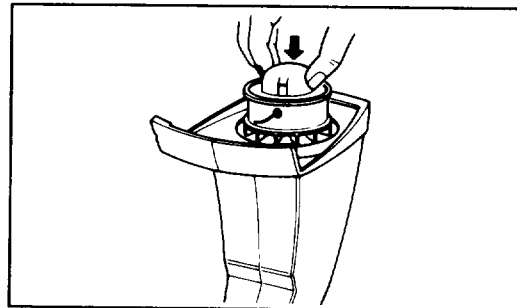

Figure 14
- 3. If line should tangle or break at eyelet, refeed cutting line through eyelet by pushing spool in as far as it will go and threading line back through eyelet. Or you may remove spool completely, refeed the line through the eyelet, and reassemble spool to trimmer (Fig. 14).